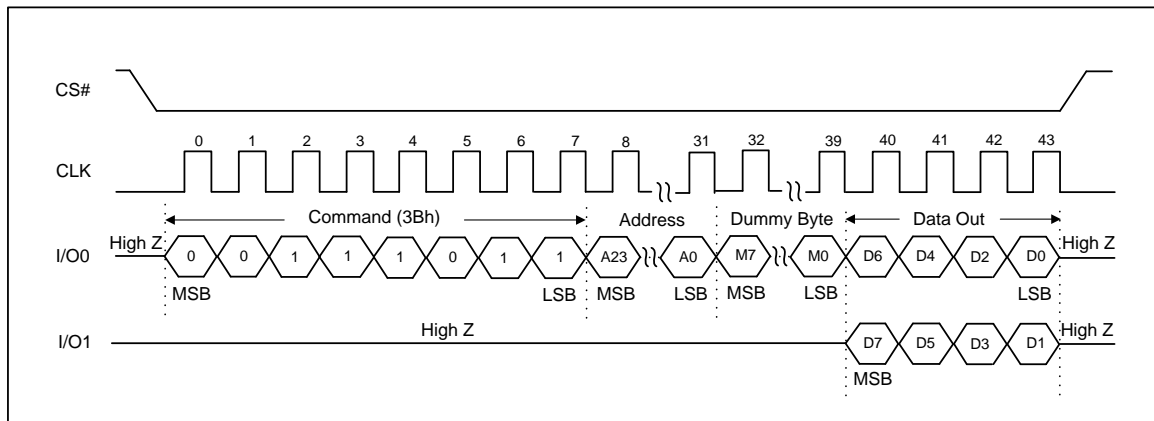

Figure 20: Dual Output Fast Read (DOFR) Command Sequence
The command sequence is shown in Figure 20. The Dual Output Fast Read (DOFR) command is similar to the Fast Read (FR) command, except that the Dual Output Fast Read (DOFR) command allows data to be read from the memory using two pins: I/O1 and I/O0 instead of only one pin SI for the Fast Read (FR) command. The Dual Output Fast Read (DOFR) operation doubles the data transfer bandwidth compared to the Fast Read (FR) operation.